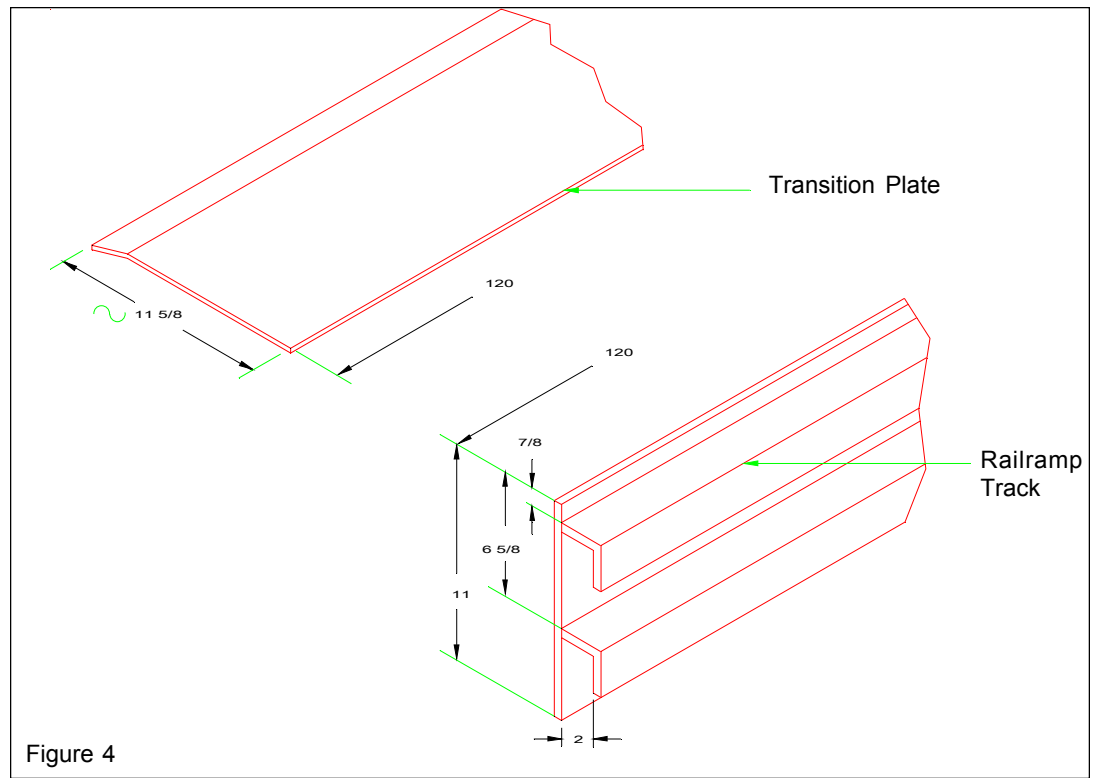

Figure 4
1. Check transition plate and railramp track for damage (See Fig. 4) that may have occurred during shipment. All dimensions should be checked against a certified installation drawing. It is the contractor's responsibility to properly install the transition plate and railramp track.